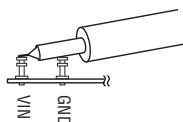

Figure 2. Measuring Input or Output Ripple
**NOTE:** When measuring the input or output voltage ripple, care must be taken to avoid a long ground lead on the oscilloscope probe. Measure the output (or input) voltage ripple by touching the probe tip and probe ground directly across the +VOUT and –VOUT (or VPORT\_P and VPORT\_N) terminals. See Figure 2 for proper scope probe technique.